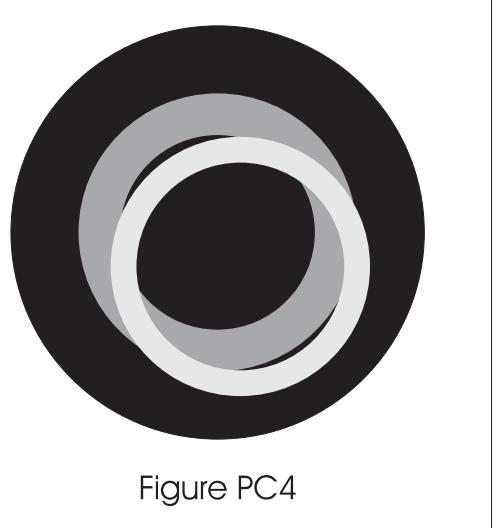

Figure PC4
- 7) Look into the telescope. You should see some sort of image of light. Focus the **Phase Telescope** (NOT THE MICROSCOPE OR THE CONDENSER) until the image is clear. You should see the image of 2 light rings. One light ring will be white. If you look carefully, you’ll see the other ring. This light ring will be charcoal gray or black and located below the image of the white light ring (See Figure PC4). In order to align the phase annuli, you must move these rings until they are concentric and placed on top of one another. The white ring must be completely surrounded by the black ring.